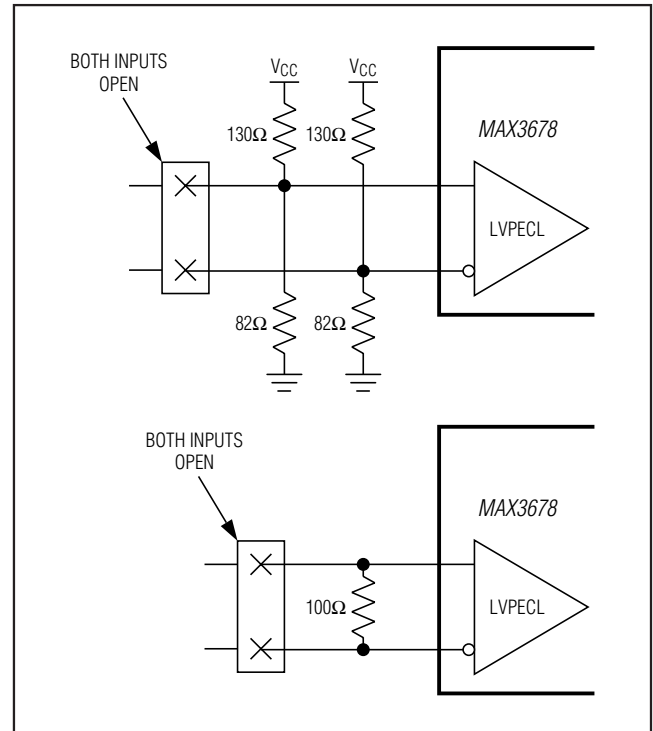

Figure 7. Positions for Open-Circuit Detection
- Both inputs ($\overline{\text{REFCLKx}}$, $\overline{\text{REFCLKx}}$) are disconnected from the source and have the following terminations connected: (a) 100 Ω differential, (b) 130 Ω to V_{CC} and 82 Ω to GND at each input. See Figure 7 for positions of open circuits that can be detected.